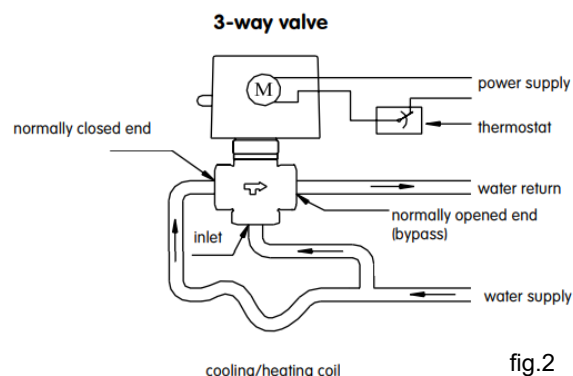
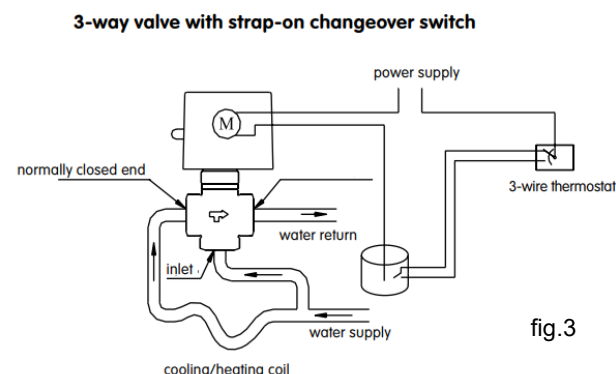

fig.2
fig.3
**3-way diverting valves:** inlet is the normally closed end and the normally open end is the bypass port (the inlet part is unmarked, fig.2 and fig.3).